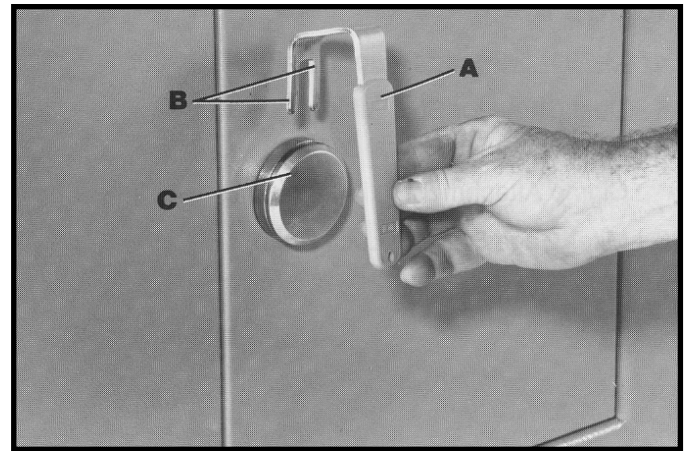

Fig. 10
1. Locate the cabinet door handle (A) Fig. 10, and insert the two prongs (B) into hub (C) of right cabinet door.